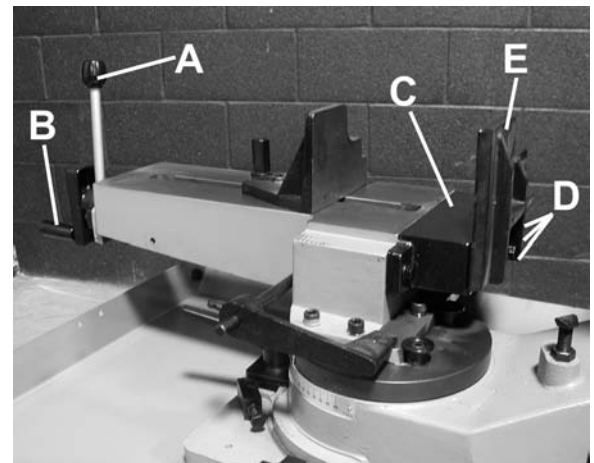

FIGURE 11
- 2) Put your workpiece on the table. Move the vice handle (A) Fig.11 upwards to an angle of 45 degrees (A-Half opened) to loosen the vise. Move the jaw vise bracket against the workpiece by turning the rectangular handwheel (B). Push down on the vise handle (A) to a 90 degree position.
- 3) To loosen the workpiece from the vise, hold the workpiece and lift the vise handle (A) to a 90 degree position (completely opened). Remove workpiece.
1. Remove hex. bolts (D), and remove the Rear Vise Jaw Bracket (E).
2. Link the Vise Base Extension (C) to the end of the Vise Base. Fix it using extra hex. bolts supplied as shown in Fig.11.
3. Replace the Vise Bracket (E).